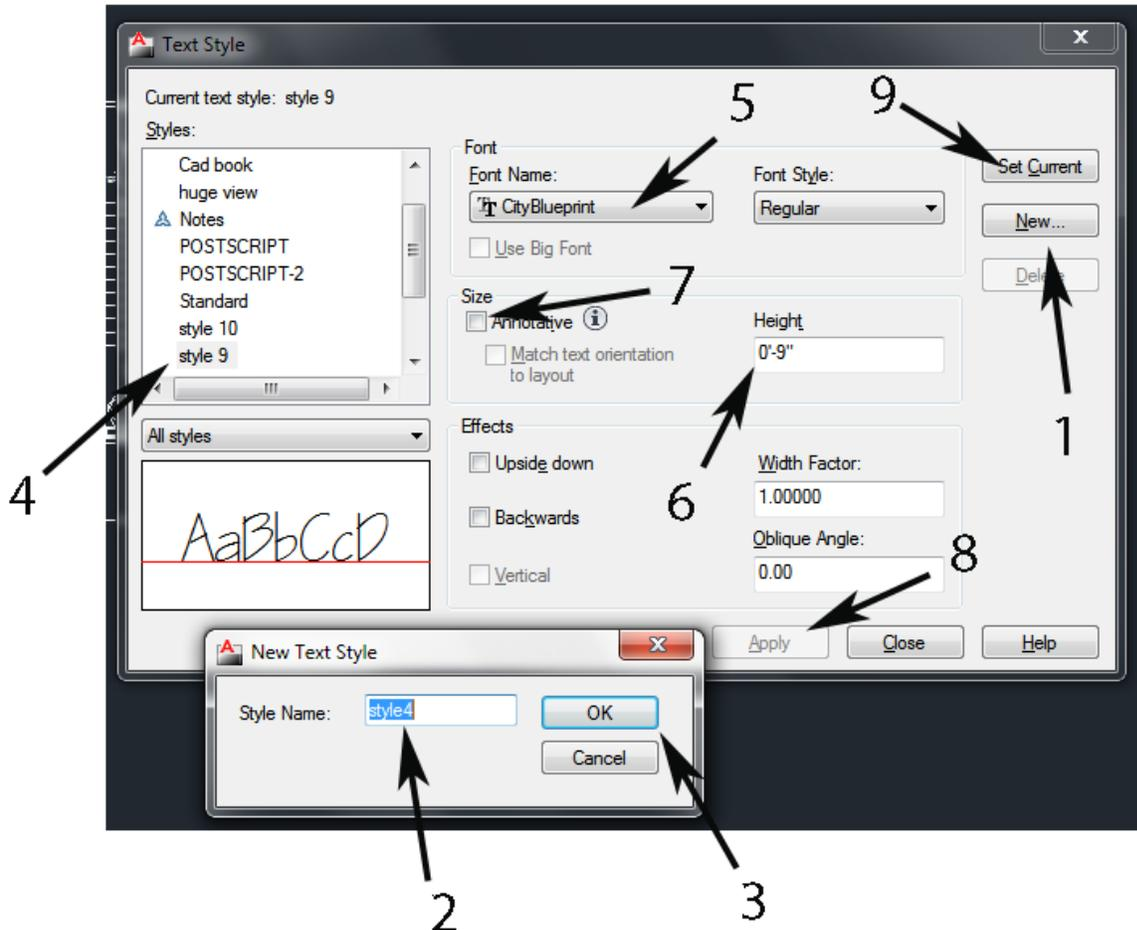

Fig 1-48
Now we must **create a text style**. Type: **style**. The **Text Style dialog box** will pop up (Fig 1-48). Click **New** (1 in Fig 1-48). **Name the style** in the window (at 2 in Fig 1-48), type: **style 9**. Then click **Okay** (3).